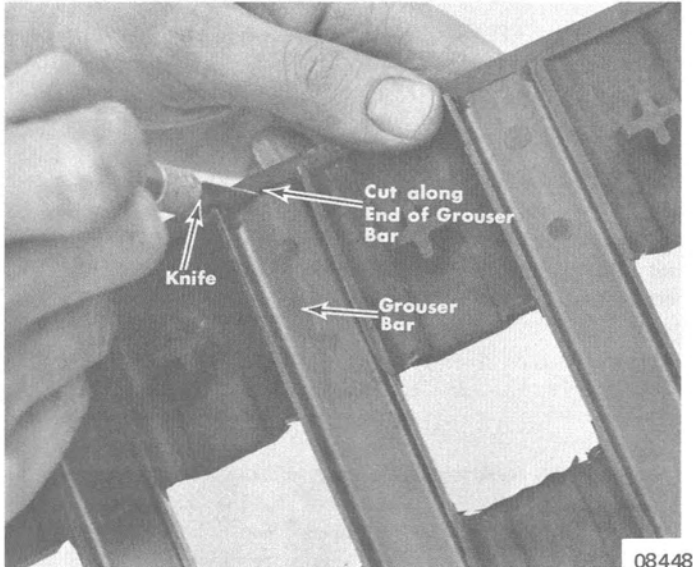

Figure 12. Cutting Track Bar Bonding
1. Make a shallow knife cut along end of track bar. Cut must be thru section of rubber and down to bare metal of track bar. (Figure 12)